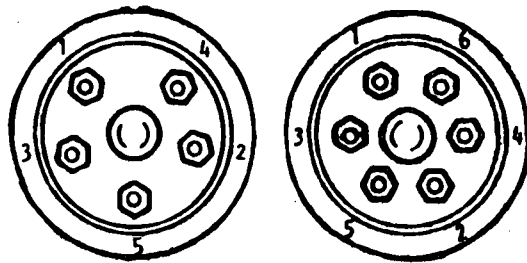

Fig. 8
- f) Finish tightening the nuts in an alternate manner (Fig. 8).